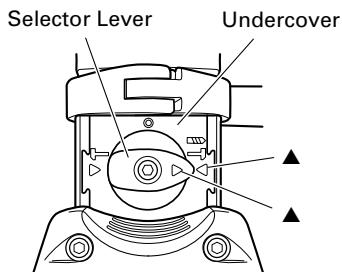

Fig. 6
- Align ▲ of the selector lever with ▲ on the side of the undercover as illustrated in Fig. 6.